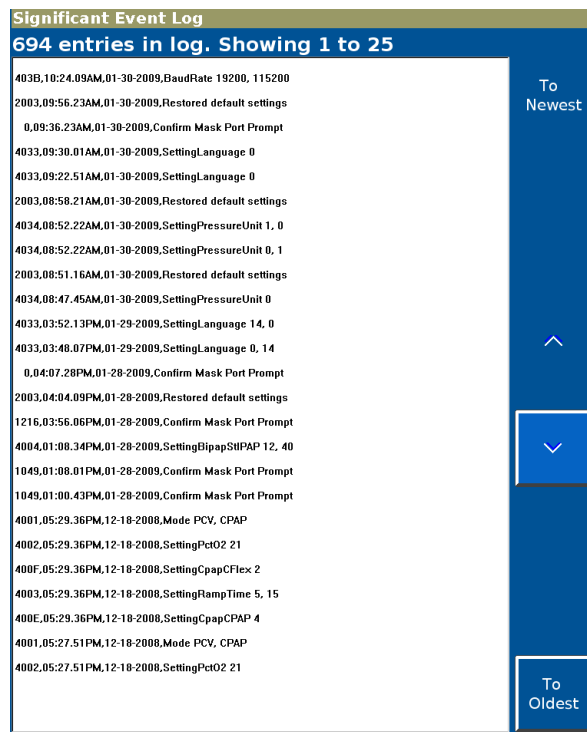

Figure E-12: Significant Event Log screen
3. The Significant Event Log opens (Figure E-12). Use the buttons on right side to navigate through the log.